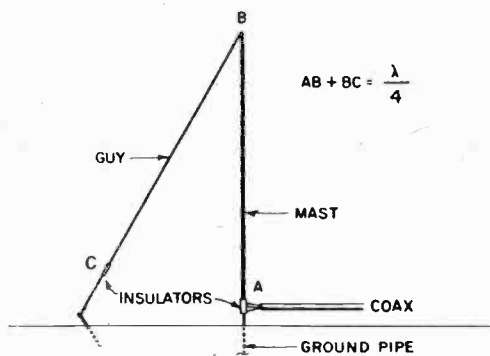
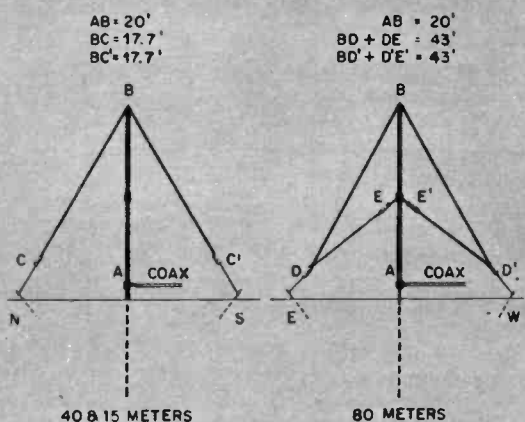

Fig. 1—Single guy wire (BC) is connected to 20-foot mast (AB) to form quarter-wave arm of antenna; second arm improves bandwidth, guying.
Fig. 2—Diagrams show approximate lengths for all sections. Guys BC and BC' operate on 40-15 meters; guys BDE and BD'E' are for 80 meters.
Cut a piece of perforated board 15 holes wide and 10 holes high. On the copper-clad side, letter the ten rows A through J and mark the 15 columns one through 15, as shown in Fig. 1. Place a resist dot over the holes indicated (B1, G7, etc.) and join the dots with resist tape (the heavy lines in Fig. 1). Place the board in a glass or plastic tray and pour in etchant solution to cover it. Agitate at least once every minute.
Fig. 1 (above)—Copper-clad side of circuit board shows you where to apply resist dots and tape. Fig. 2 (below)—Parts location on reverse side is shown. Q1-B, for example, is for base lead of Q1.
Fig. 4—After circuit board is installed, connect leads to components mounted in cabinet, using the diagram in Fig. 2 as a guide. If you'd rather not attempt to make a printed-circuit board, use regular perforated board and flea clips.
detail in a moment, should be about 14-gauge wire. Be sure to space them roughly 90 degrees apart around the mast. The directional letters (N, S, E, W) in Figs. 2 and 4 are merely to remind you of the 90-degree spacing.
Each of the Mainmast's guys, when added to the length of the vertical, represents a quarter-wave antenna. Thus in Fig. 1, we would add the 20-foot length of the vertical (AB) to the length of the single guy (BC) to find its electrical wavelength. The mast length also would be added to the guy on the opposite side. In other words, the mast forms part of each quarter-wave arm of the antenna.
The lengths of the four guys are shown in Fig. 2. To arrive at the proper length for a 1/4-wave against ground, divide your operating frequency in megacycles into 234 (using what is called the 234 Formula). Just for the record, the complete formula we're dealing with
The diagram at the right in Fig. 2 indicates that two of the guys should be 43 feet long. When you add the length of the guy (43) to the height of the mast (20), you get 63 feet, which is exactly what the formula gives you as the length of a $\frac{1}{4}$ -wave element cut for the center frequency of the 80-meter Novice band.